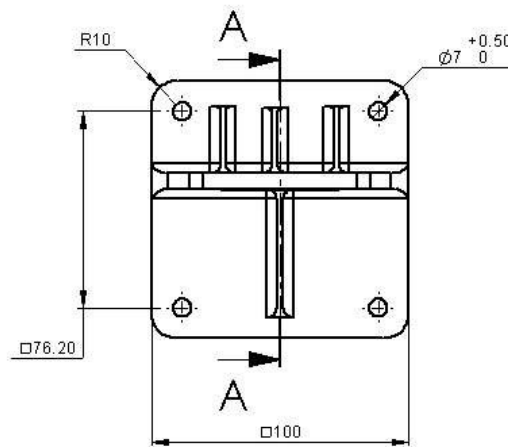

Figure 1- Tilt Mount Base - Rear View
- a) Place the tilt mount (Fig. 1) in its designated location and secure it with four screws through four 0.28" (7mm) diameter holes. There are four captive screws with spring washers in the tilt mount. The following drawing shows the location of the four holes for the screws and washers.